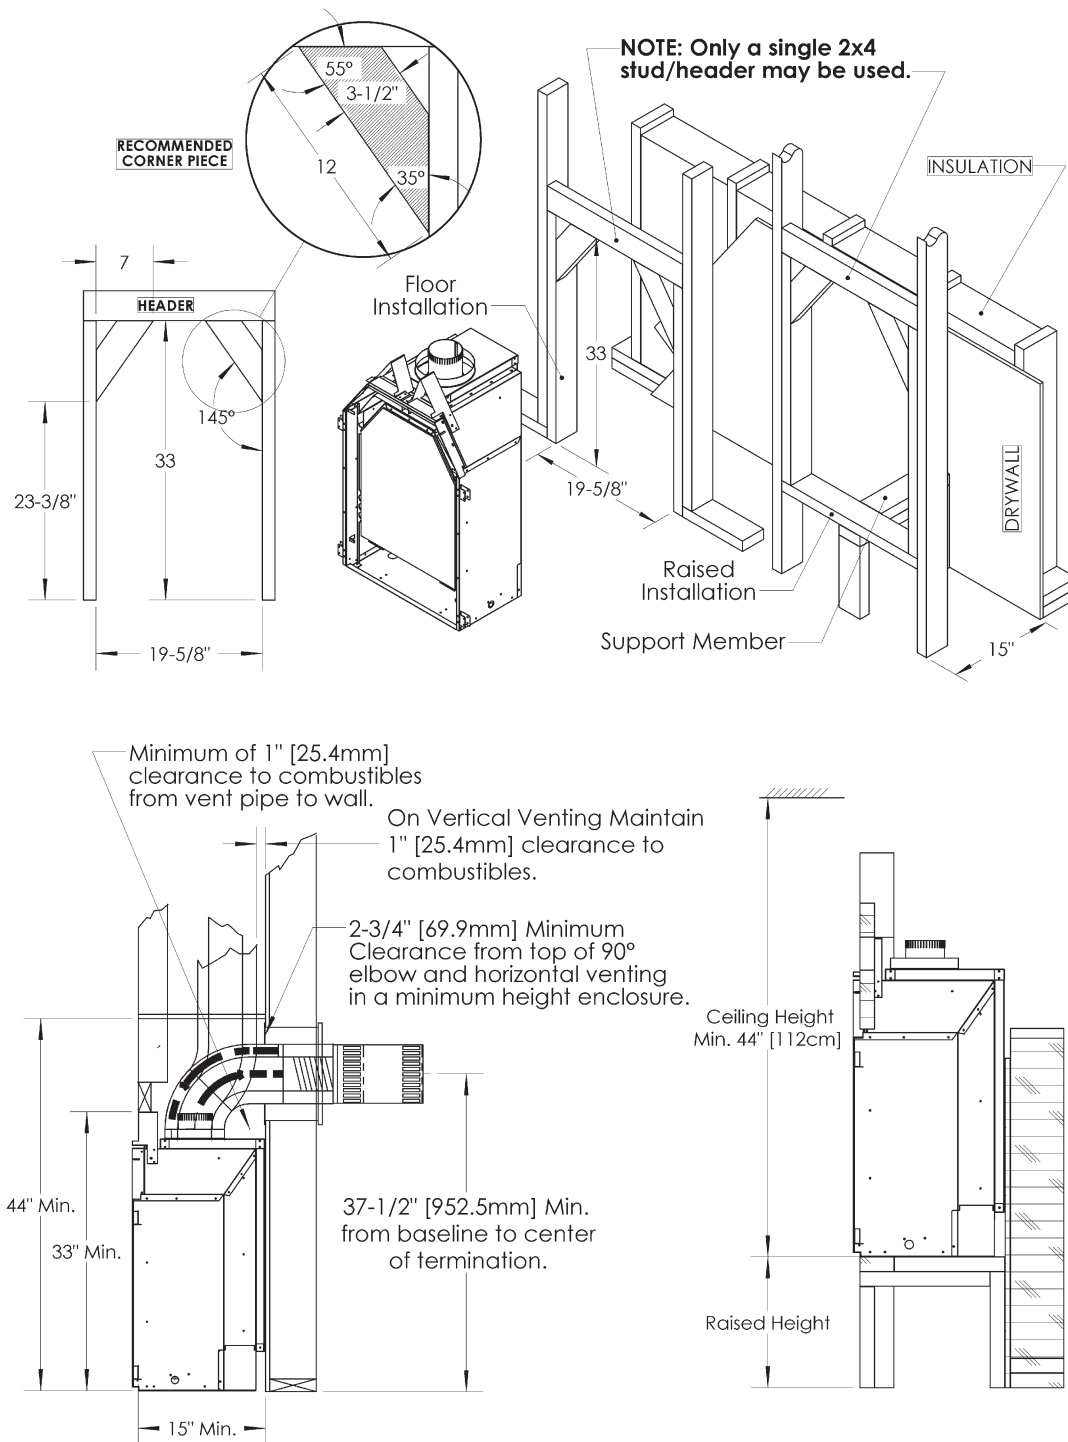
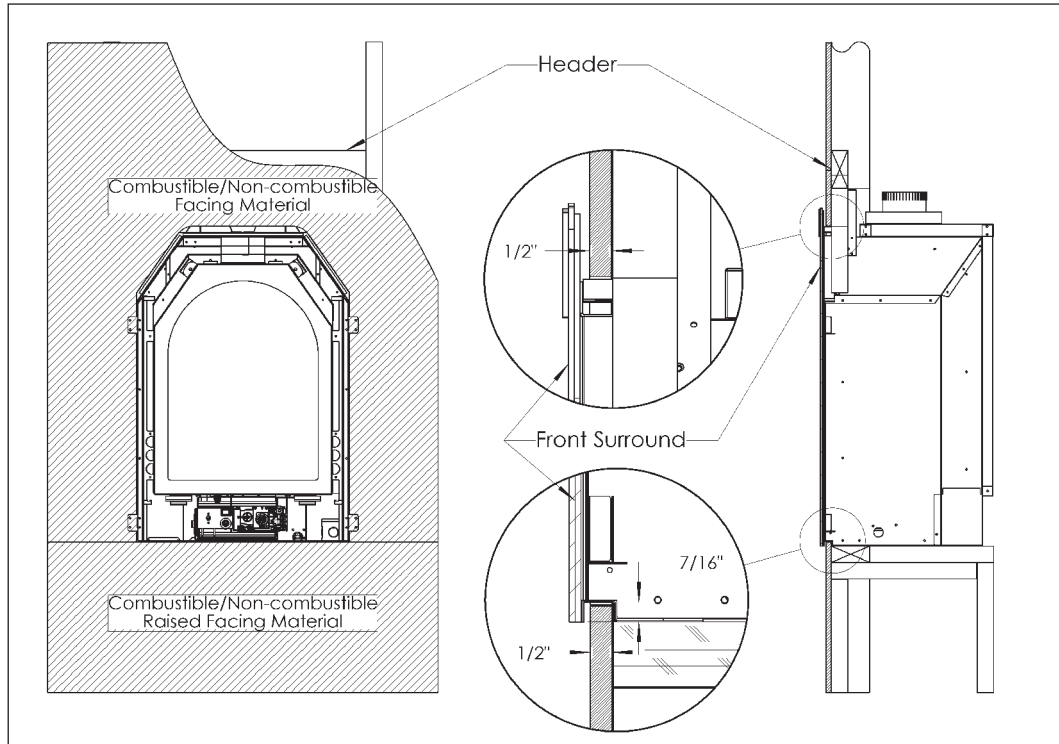

Figure 5 - General framing installation.
Figure 11 - Installation guide for 1/2" facing material.
For Corner Installations the minimum clearance to combustibles in Table 1 must still be adhered to. Please refer to Figure 5 and the Clearance to Combustibles table for more information.
For Raised Installations the minimum clearance to combustibles mentioned in Table 1 must still be adhered to. Please refer to Figure 5 and the Clearance to Combustibles table for more information. Furthermore, make special considerations to the Minimum Ceiling height restriction. This value is taken from the bottom of the appliance—not the floor. Thus, if the unit is installed in a raised configuration then the absolute ceiling height will be:
This formula is illustrated in Figure 5.
**NOTE: Only one 2x4 stud/header may be used in the frame. Please refer to Figure 5 on page 11 or Figure 11 below.**